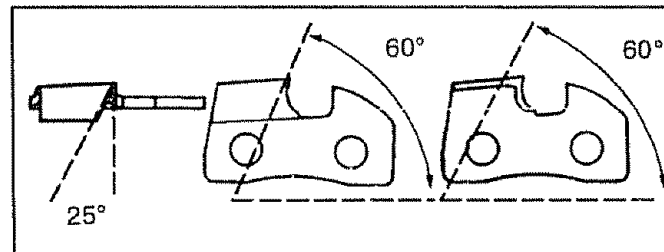

Figure 37
- File chain to meet the specifications shown below. See Figure 37.